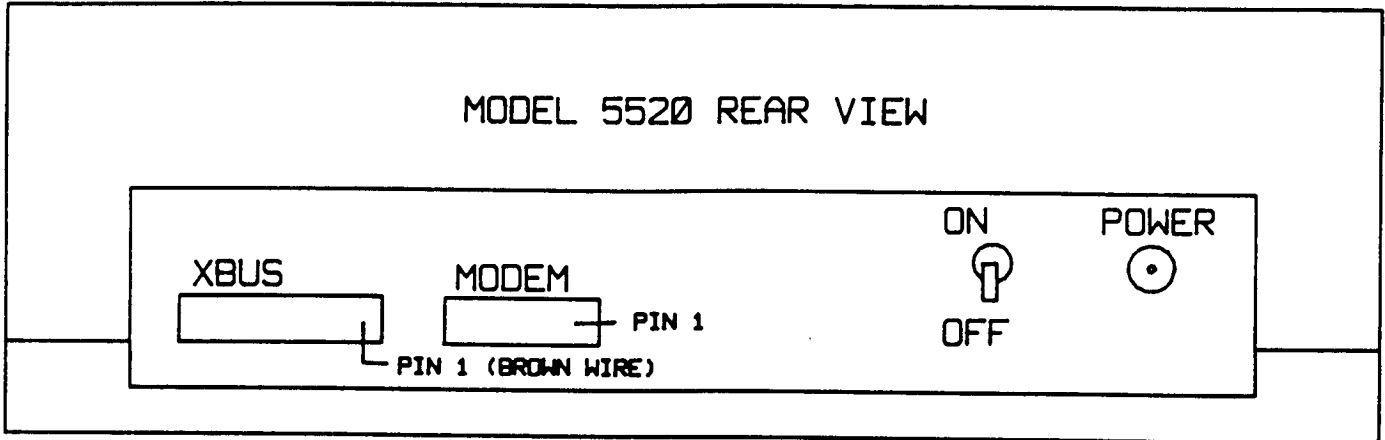

FIGURE 4.1A: CONNECTING THE CABLE TO THE PROGRAMMER
1. Turn OFF the programmer and panel. Connect one end of the 12-wire double ended cable (provided) to the XBUS connector on the programmer (see Figure 4.1A below). The XBUS wires should extend **down** from the connector slot.